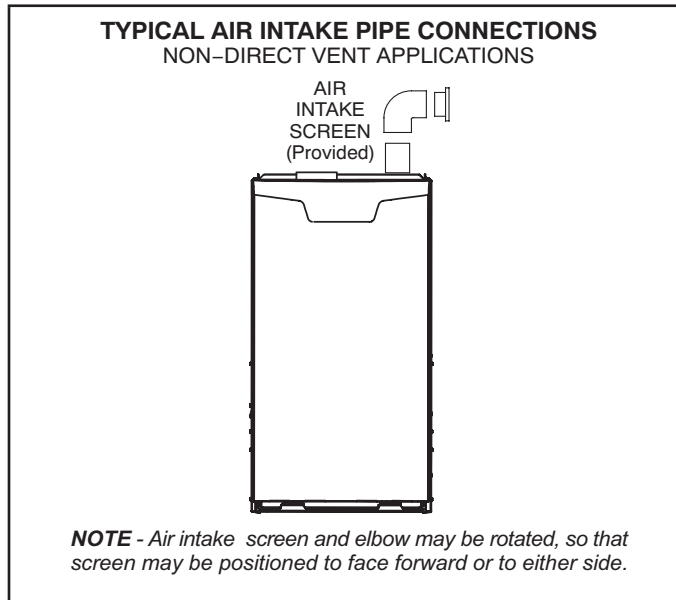

FIGURE 27
- 1 - Use field-provided materials and the factory-provided air intake screen to route the intake piping as shown in FIGURE 27. Maintain a minimum clearance of 3" (76mm) around the air intake opening. The air intake opening (with the protective screen) should always be directed forward, or sideways.